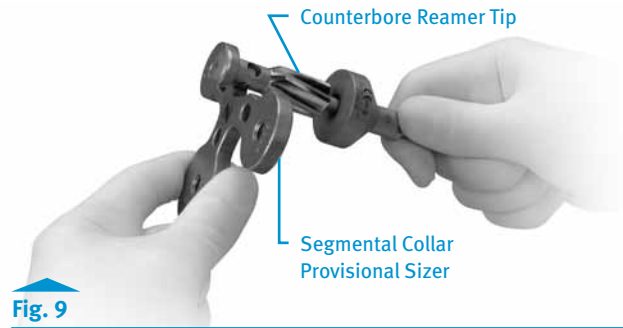

Fig. 9
- Insert the pin on the Segmental Collar Provisional Sizer through the cross-hole of the reamer tip and turn the Collar tightly to secure it to the stop plate (**Fig. 9**).